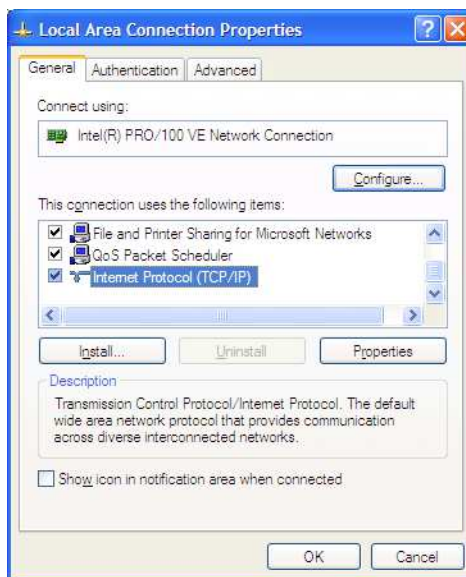
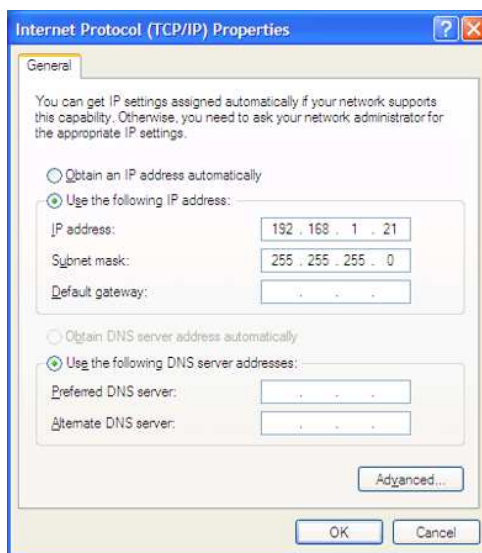

Figure 5. The Local Area Connection Properties Dialog
Figure 6. The Internet Protocol Properties Dialog
3. In the **Local Area Connection Status** dialog box, click the **Properties** button. The **Local Area Connection Properties** dialog box appears (Figure 5).
- In the panel labeled **This connection uses the following items:**, select the **Internet Protocol (TCP/IP)** item to highlight it, and click the **Properties** button (Figure 5). The **Internet Protocol (TCP/IP) Properties** dialog box appears (Figure 6).
- Enter values for the IP address and subnet mask to match those shown in Figure 6. Leave any remaining fields blank. In this example, an IP address of 192.168.1.21 and a subnet mask of 255.255.255.0 are being assigned to the PC. These values place the PC on the same network as the ZPAK II unit, and do not conflict with the IP address of ZPAK II.